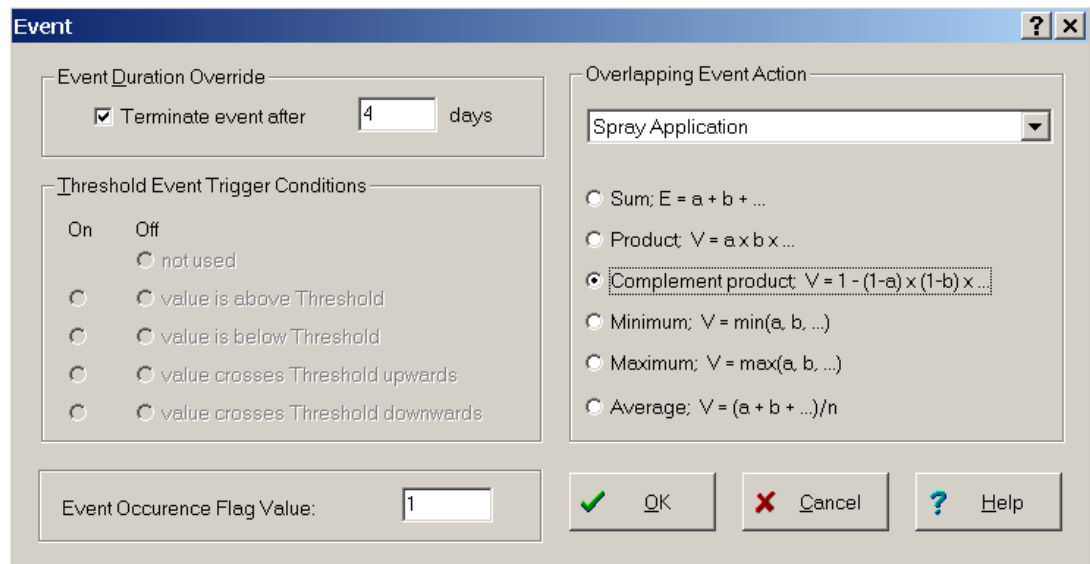

Figure 9-5 The “Event” settings dialog
20. Click on the **“Settings”** button obtain the “Event” settings dialog (Figure 9-5)